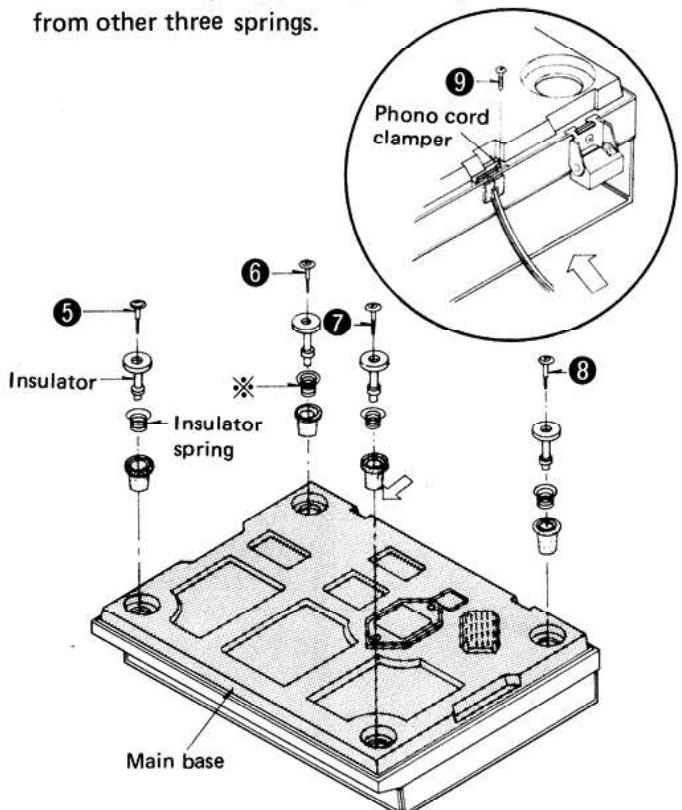

Fig. 2
5. Remove the insulator setscrews ⑤ ~ ⑧ and phono cord clamer setscrew ⑨. (See Fig. 2)